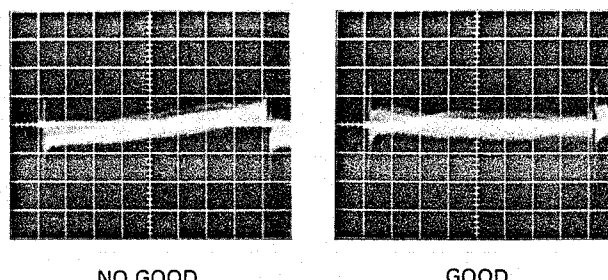

Fig. 6-4-31
(2) B signal vertical shading adjustment
- Adjust B-V.SAW VR206 and B-V.PARA VR207 to make the waveform as flat as possible.(Fig.6-4-31)